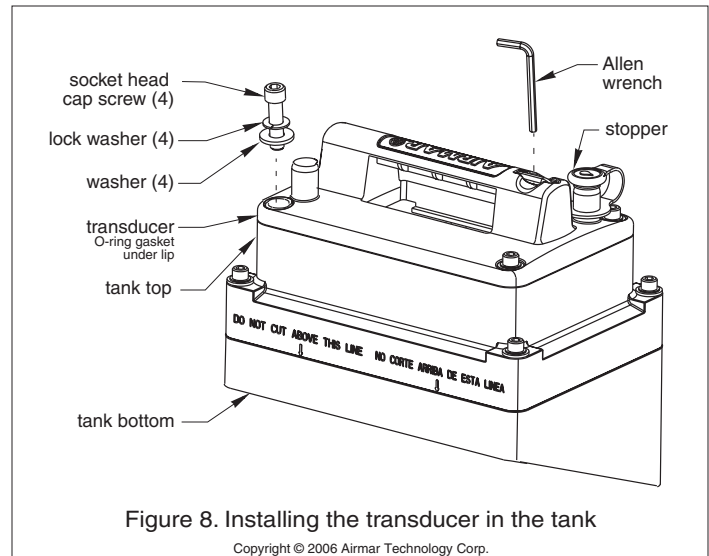
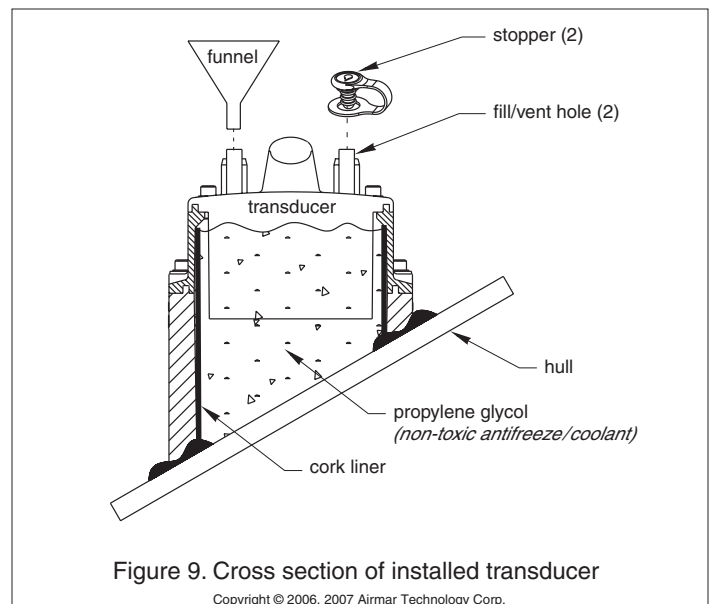

Figure 8. Installing the transducer in the tank
Figure 9. Cross section of installed transducer
- If the tank is being installed in two parts, reattach the two sections now (see Figure 8). *Be sure* the O-ring gasket is in place around the lip and lubricated. Screw the two halves together using the socket-head cap screws, lock washers, and washers supplied. *Do not* over tighten.
- Grasp the transducer by the handle and lower it into the tank (see Figure 8). There is no fore or aft to the transducer; it fits either way.
- Top-off the propylene glycol in the tank. However, allow a small air space to accommodate expansion with temperature changes. Using the funnel supplied, pour the fill-liquid through one of the fill/vent holes until the tank is full (see Figure 9). The second hole will act as a vent. Alternately, the tank can be filled using standard diameter tubing secured with a band clamp. Attach the stoppers supplied and plug both fill/vent holes (see Figure 8). To ease sliding, lubricate the stoppers with the fill liquid. Tie the funnel to the handle to keep it near-at-hand.